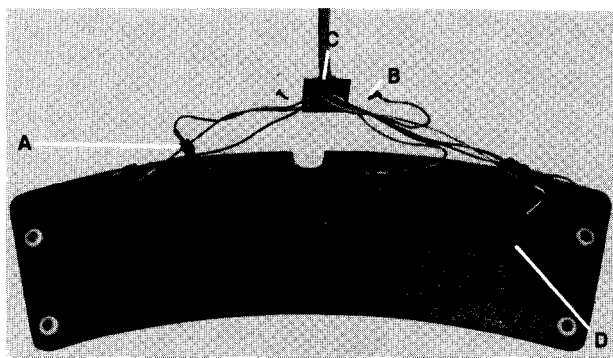

Fig. 38
- 1) Remove cover from bottom of footswitch by removing (7) # 10 Phillips headscrews.
- 2) Disconnect cord by pulling apart (7) quick disconnect wire connectors, Item A, Fig. 38, and removing (2) # 10 taptite screws at the base of the cord bracket, Item B, Fig. 38.
- 3) Hold cord bracket and grasp strain relief bushing, Item C, Fig. 38, with hand pliers, (See Special Tools on Page 21). Squeeze tab on bushing and pull bushing from bracket.
- 1) Remove (2) # 10 Phillips flathead screws from back of footswitch which hold the module, Item D, Fig. 38.
- 13) Align two mounting holes and insert (2) # 10 Phillips flathead screws and tighten, Item D, Fig. 38.
- 3) Remove strain relief bushing, Item C, Fig. 38, from cord by grasping bushing with hand pliers (See Special Tools on Page 21), squeezing tab on bushing, and pulling bushing out of hole in bracket.
- 7) Insert new cord through bracket (See Fig. 38) and install strain relief bushing using the hand pliers, (See Special Tools on Page 21).